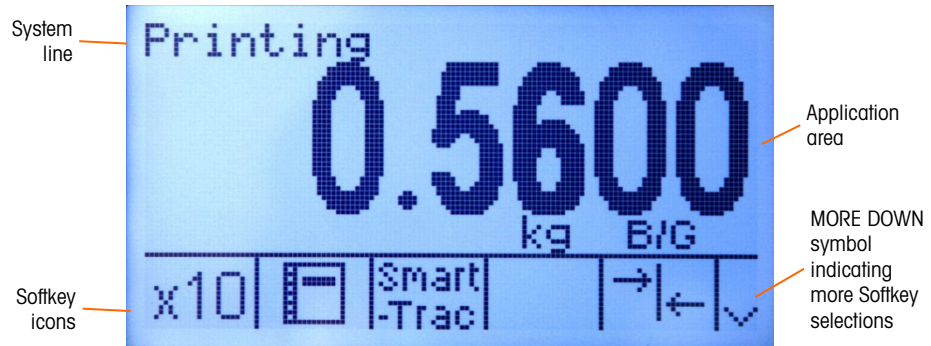

Figure 2-9: Default Home Screen, System Line with Message Showing
- PRINT** Press the PRINT scale function key to initiate a demand print of an assigned print template. A serial or Ethernet print connection must be configured to link a template or report to the selected serial or Ethernet port. When a print command is issued, Printing appears in the system line for 5 seconds – see Figure 2-9.
The Home screen displays when the terminal is idle. The Home screen is the only screen that provides operator access to the programmable softkeys. Figure 2-9 shows a sample screen with a message showing in the system line.